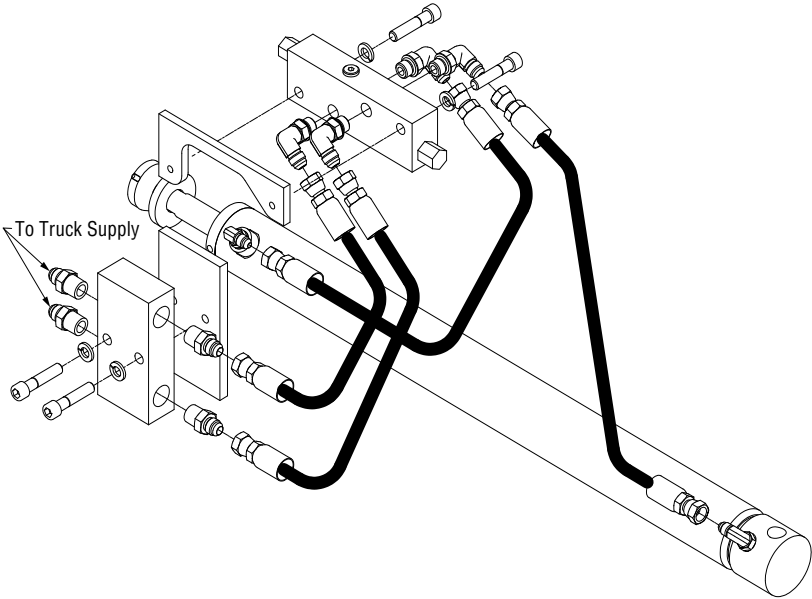

Figure 3-5, Hydraulic Connection
2. Disconnect the hydraulic connection for the attachment positioning at the hydraulic valve. (Figure 3-5)
2. Disconnect the hydraulic hoses from the truck at the attachment's valve (Figure 3-5). Cap the hoses to prevent contamination and tag for reassembly.